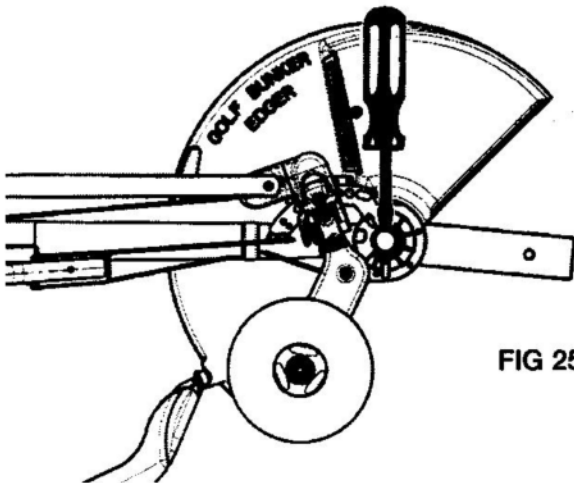

FIG 25
1. Stop engine. Clean area around dust cover #44042 and pry out with screwdriver (Fig. 25) exposing 14mm hex head for unscrewing blade nut.